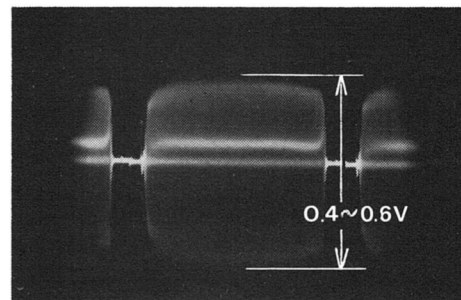

Fig 7.14
- (1) Connect the oscilloscope probe between terminals TP-3 and TP-E on the Video Process PCB (CA 1501A)
- (2) Shoot the white pattern and adjust the iris control mechanism to attain a voltage between 0.3V and 0.5V (see Fig 7.14)
- (3) Connect the DC voltmeter to the terminal TP near the IC 71 **⑧** PIN on the Def and Power PCB (CA 4501A) and adjust the reference focus voltage potentiometer R18 **8V ADJ** until the voltmeter indicates 8V
- (4) Adjust R75 **FOCUS** on CA 4501A until the amplitude of the waveform is increased to the maximum level and uniform white balance is achieved on the TV monitor, as shown in Figure 7.14.